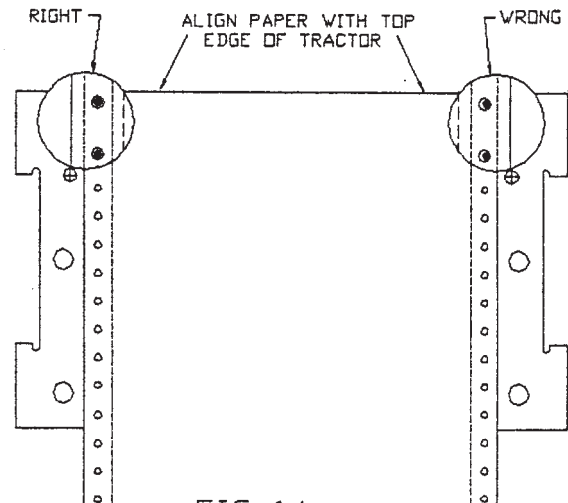

FIG 14
NOTE: For Models with slitters or tractors see Fig. 14.
2. Place the form on the Feed Pins. (Fig. 14)
3. Position the Tractors to the proper form width by lifting the Levers on the side on the Tractors. Raise the Tractor Gates and sliding the tractors to the proper width. Place the form on the Feed Pins as shown in Fig. 14. Close the Tractor gates and secure their position by pushing the Locking Levers down.